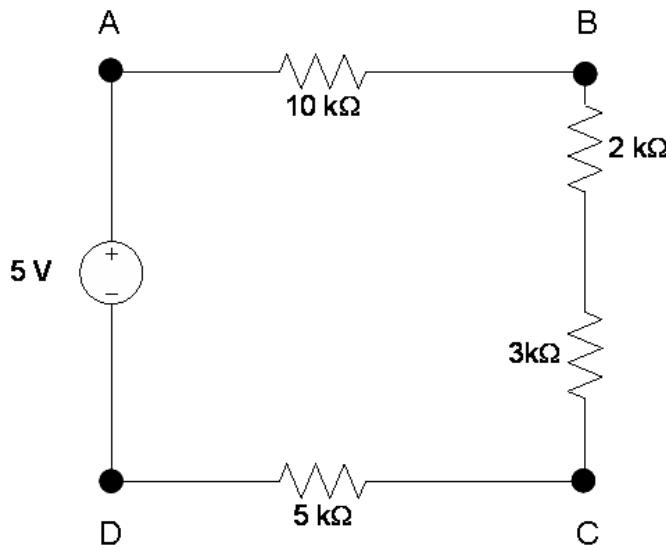

Figure 9: Breadboard and Measurements First Circuit
6. Connect a wire from the AGND to the point D in Figure 9. You may need to use multiple wires to make this connection. For clarity, you should use wires of the same color.
7. Connect another wire (of a different color) from the AO0 to point A of Figure 9. You may need to use multiple wires to make this connection. For clarity, you should use wires of the same color.
10. Draw the circuit shown in Figure 9 above in the box provided in the Lab Report. Include where you will place voltmeters (denoted by a "V" inside a circle; include the positive and negative terminals) to measure V_{AB} , V_{BC} , and V_{CD} . You will have more than one voltmeter in your circuit.